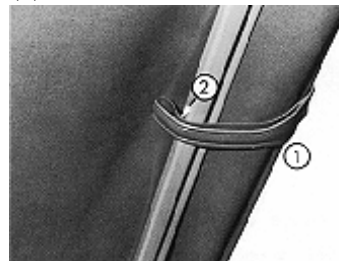

Fig. 26
Secure the frame (Fig. 26) by means of the strap (1) and press-stud (2).